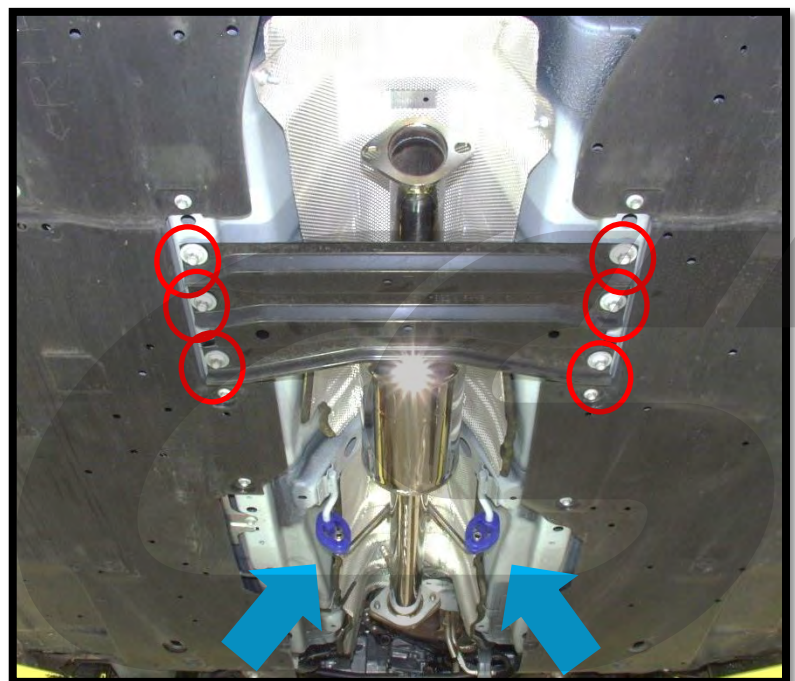

Figure 4b
b) Place the forward section of the CorkSport exhaust pipe into the rubber hangers (blue arrows in Figure 4b). Verify that the o2 sensor bung is placed upward and toward the front of the vehicle.
b) Replace the mid chassis brace and fasten it in place with the six (6) 12mm bolts (red circles in Figure 4b). Torque to 15-17ft-lbs.